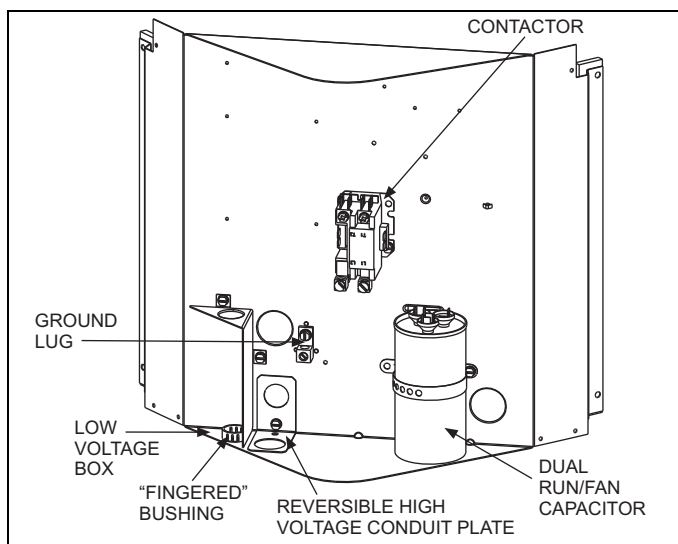
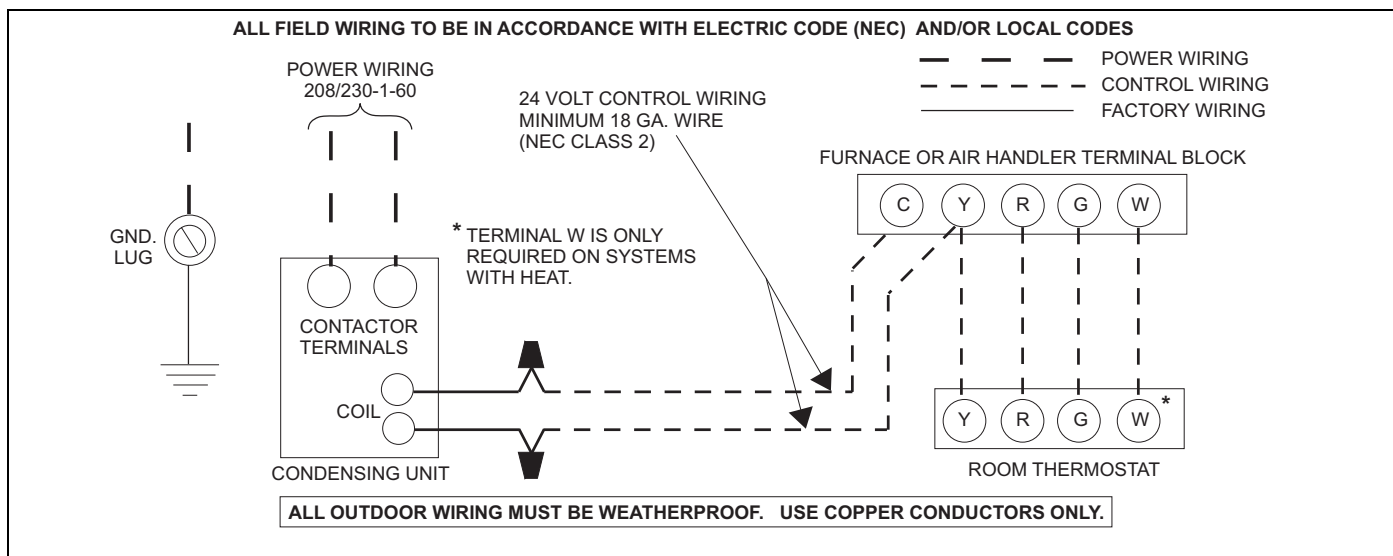

FIGURE 6: Outdoor Unit Control Box
FIGURE 7: Typical Field Wiring (Air Handler / Electrical Heat)
4. Route wires from disconnect through power wiring opening provided and into the unit control box as shown in Figure 6.
1. Route low voltage wiring into bottom of control box as shown in Figure 6. Make low voltage wiring connections inside the low voltage box per Figures 7 - 11.